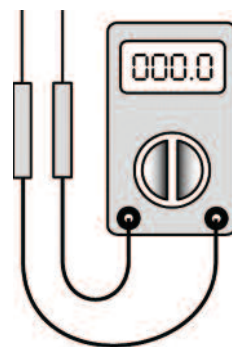

Fig. 13: Multi-meter
**WARNING:** Using a multi-meter, check the following voltages at the circuit breaker panel prior to connecting any equipment. Make sure proper polarity is followed and house ground is proven. (See Fig. 13.)